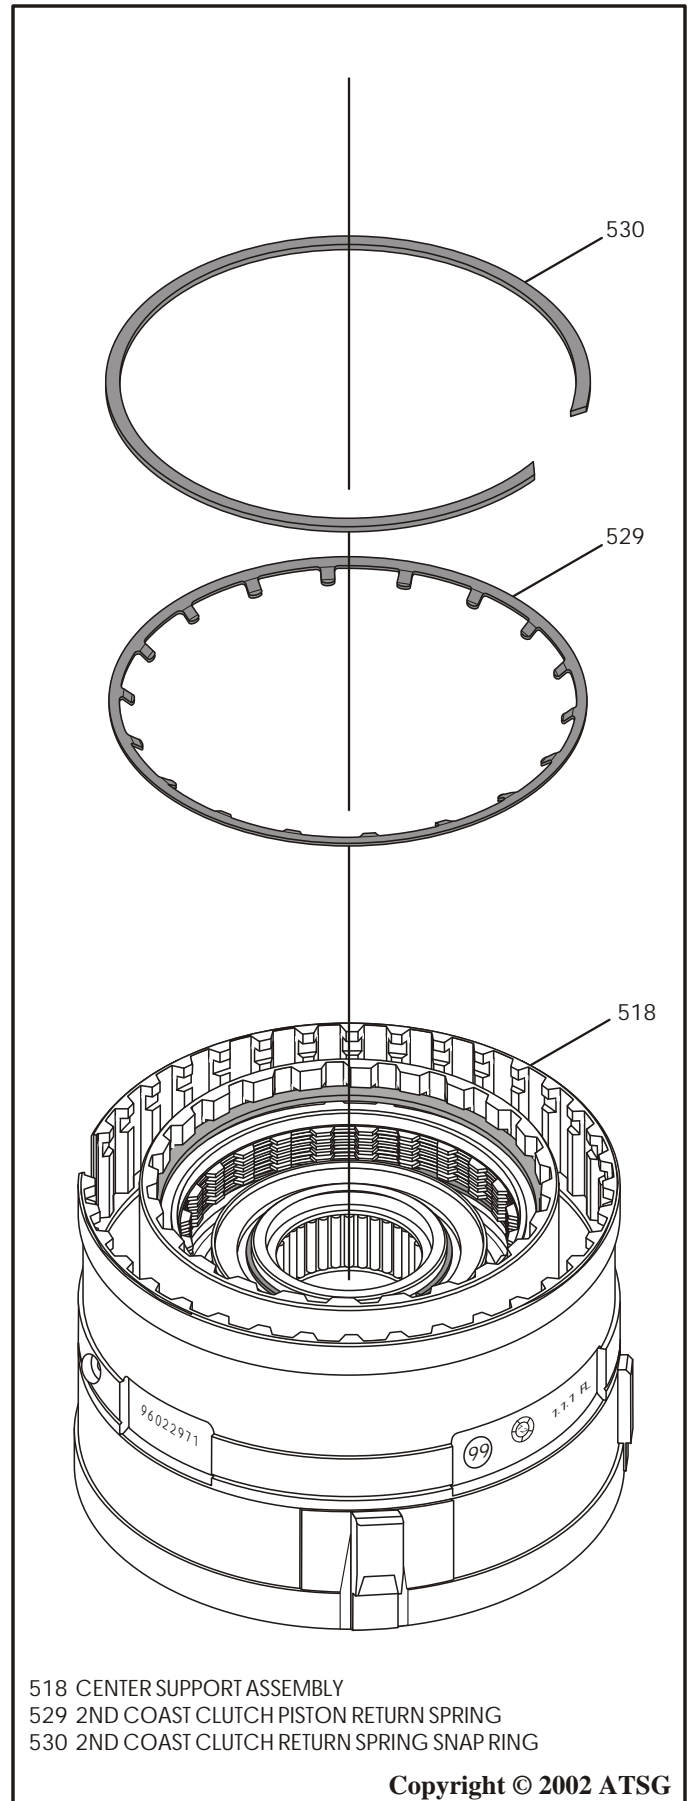

Figure 146
31. Install the 2nd coast clutch "Bellville" return spring, as shown in Figure 146.
32. Compress return spring and install the return spring snap ring as shown in Figure 146.